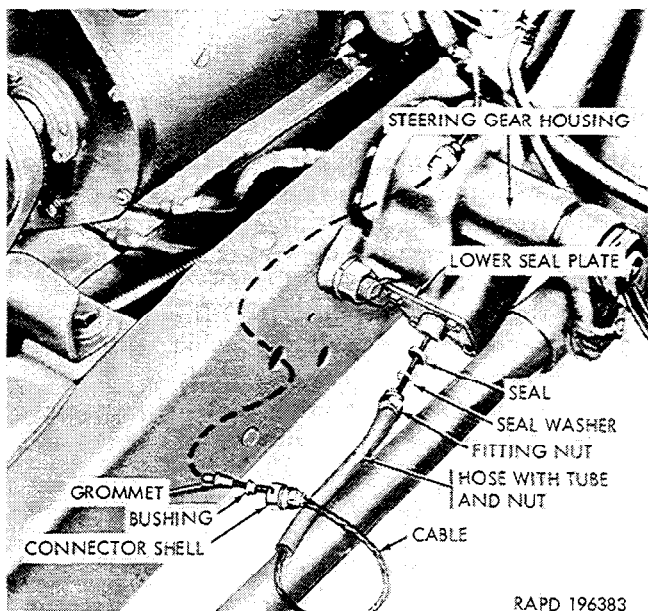

Figure 2-69. Horn button cable disconnect points.
(1) Install the lower retaining plate (L) over the steering gear shaft and install the steering wheel nut (P). Tighten the nut.
(2) Insert the lower end of the horn button cable (A) in the upper end of the steering gear shaft, and push the cable down through the shaft until the lower end extends through the shaft. Install the insulator (N) on the cable just below the cable terminal.
(3) Install the button spring (T) and the upper retaining plate (S) in the horn button (U), and install the snapping (R).
(4) Install the plate spring (Q) in the steering wheel and install the horn button (U), pressing the button down firmly and turning it clockwise to engage the two retaining plates (L and S). Install the button seal (V).
(5) Install the cable seal and seal washer over the lower end of the cable and into the lower seal plate (fig. 2-69). Assemble the hose, tube, and $\frac{3}{8}$ -inch inverted flared tube fitting nut (fig. 2-69), and install the parts on the cable. Screw the nut to the lower seal plate on the steering gear housing.
(6) Install the connector shell, bushing, and grommet on the lower end of the cable (fig. 2-69). Position the grommet next to the cable terminal with the bushing holding the grommet in place.
(7) Insert the cable through the opening in the frame left-side rail, connect the cable to cable (25)A, and engage the connector in the clip on the splash shield.